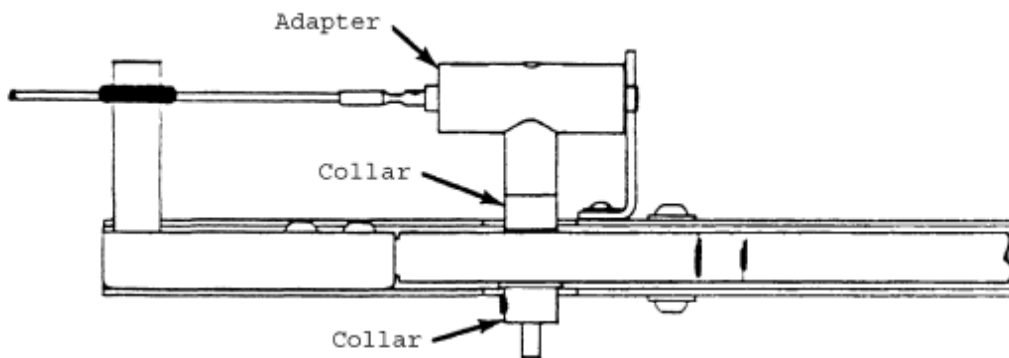

Figure 6-2. Adapter Installation on AD-1567 Holding Fixture
1. Install the AT-1319-24 adapter onto the AD-1567 holding fixture (see Figure 6-2).